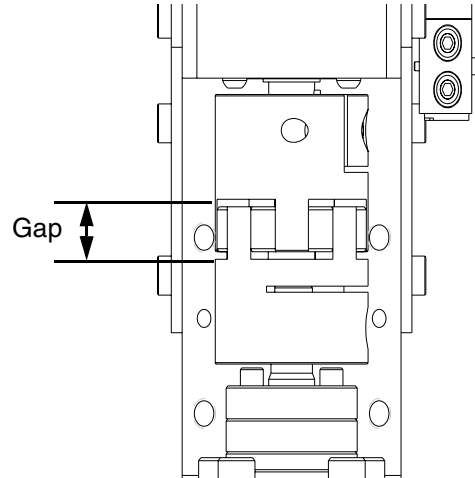

FIG. 21
- Separate coupling until proper gap is created. FIG. 21. See the following table.